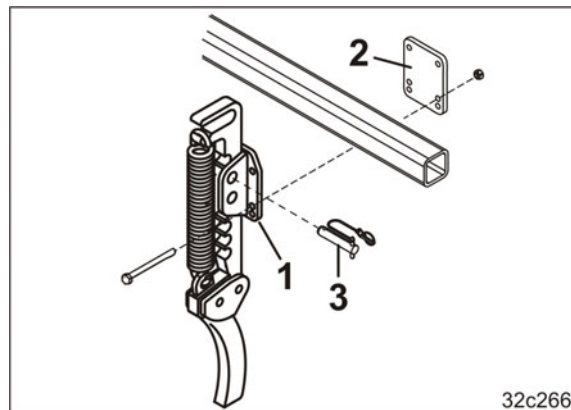

Fig. 59
- 1.1 Screw the wheel mark eradicator (Fig. 59/1) to the three-point extension frame using the clamping plate (Fig. 59/2).
- 1.2 Pin the wheel mark eradicators right at the top with the positioning bolts (Fig. 59/3). The working depth is adjusted on the field.